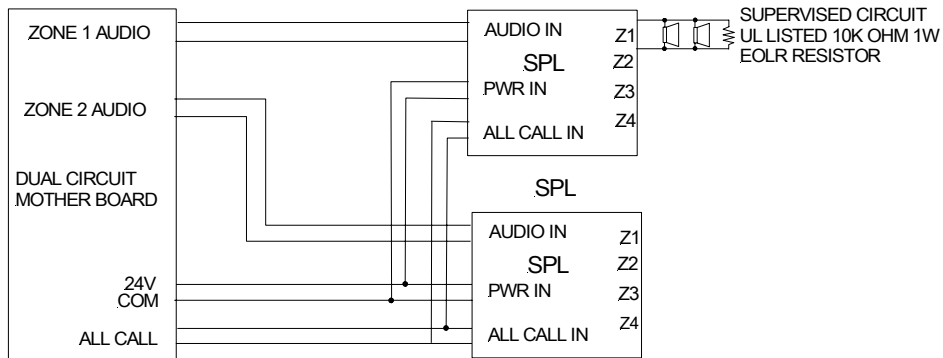

Figure 4.
1. See Figure 4 for wiring diagram.